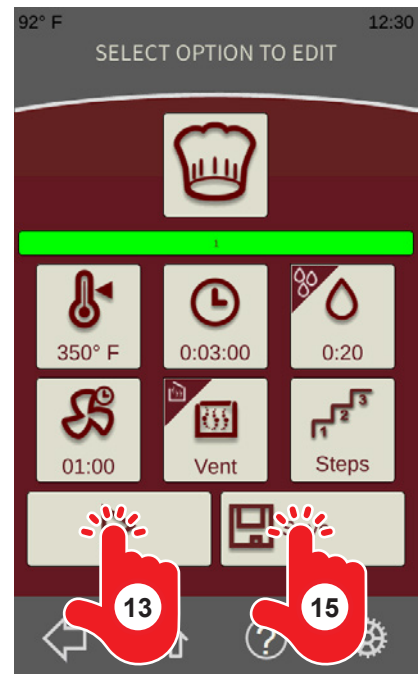

Fig. 24
- Review the oven settings for the recipe step (Fig. 24).
- To run the recipe without saving, touch the Play button (Fig. 24).
- To save the recipe, touch the Save button (Fig. 24). See Saving a Recipe.